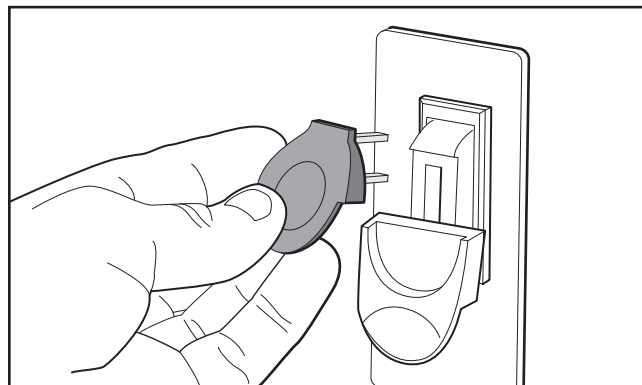

Figure 12. Removing switch key from ON/OFF switch.
7. Remove switch disabling key from ON/OFF switch, as shown in **Figure 12**.